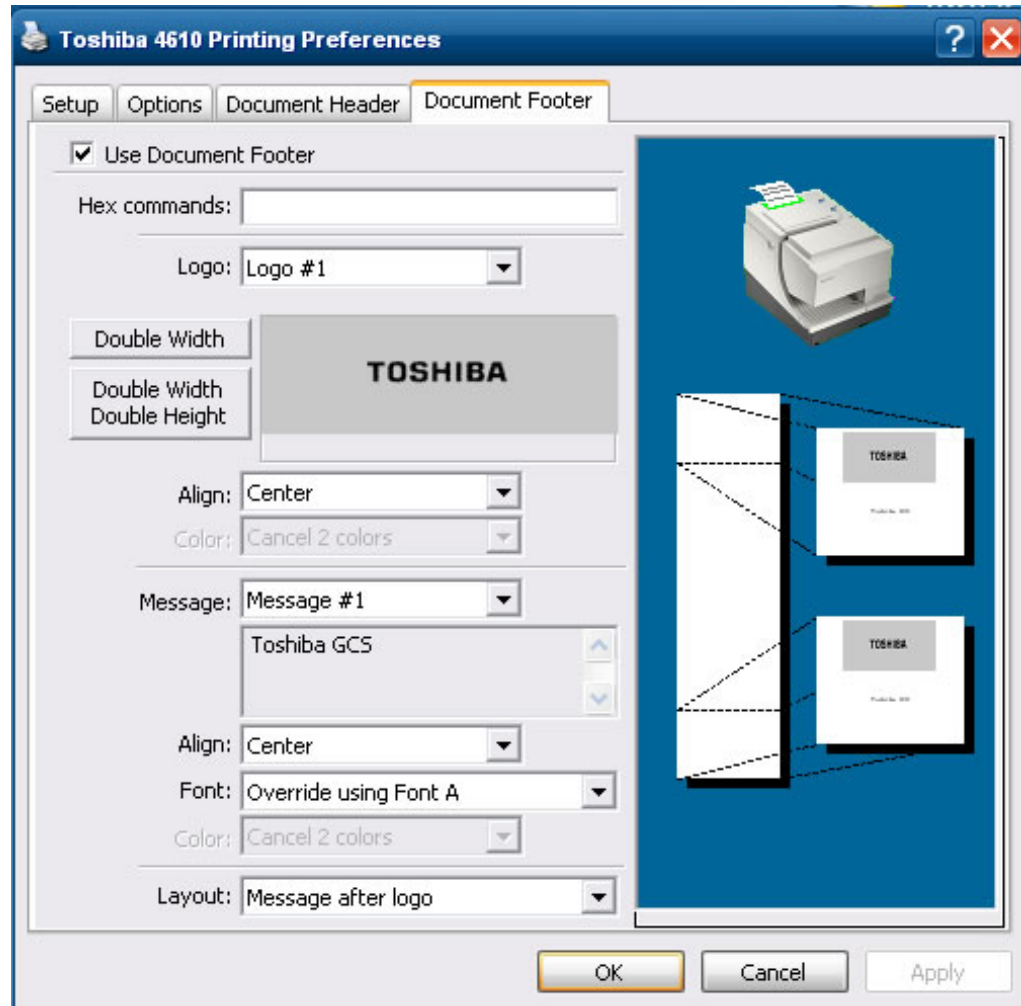

Figure 50. Selecting a footer message
7. To specify a message (see Figure 50):